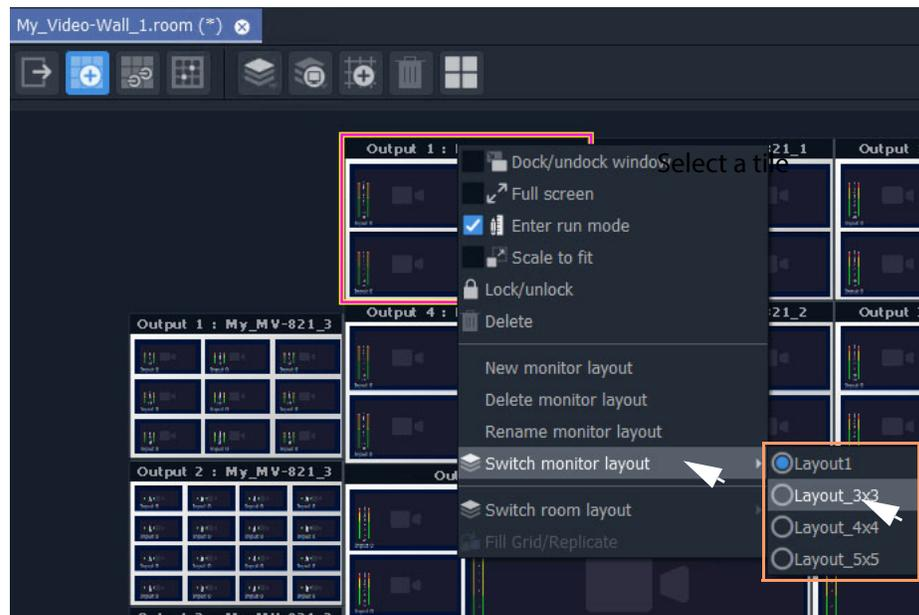

Fig. 8-46: Select a Monitor Layout
- 5 Select 'Switch Monitor Layout' and select a **Monitor Layout** from the list. (See Figure 8-46.)